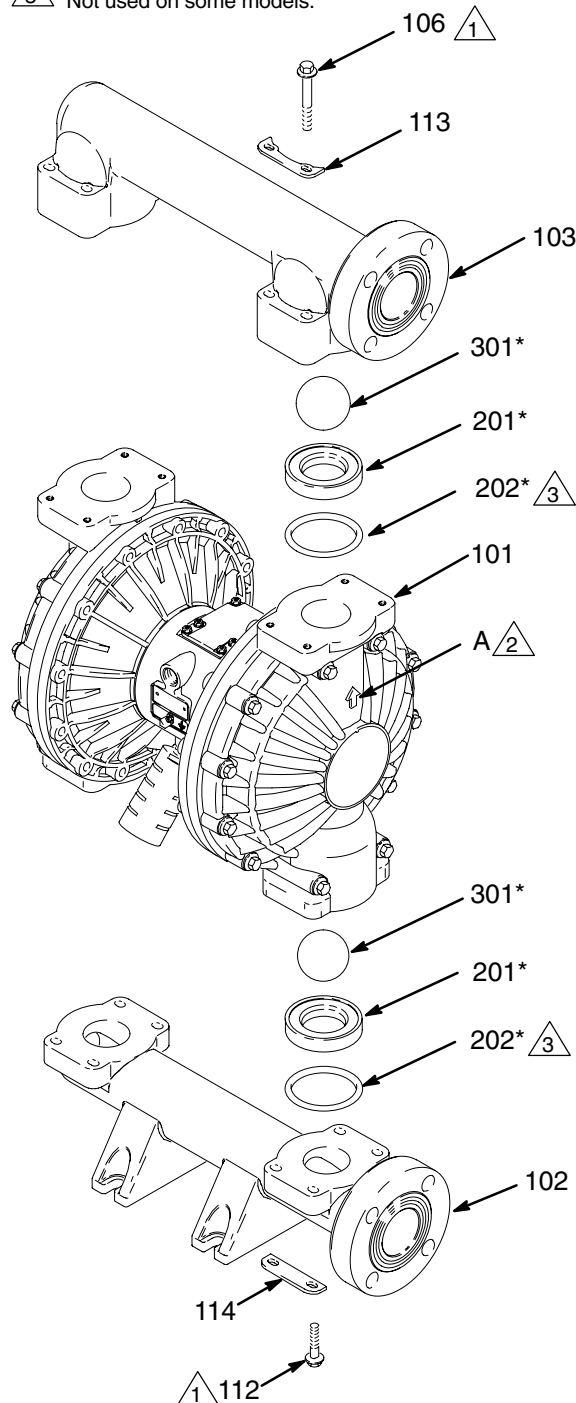

Fig. 11
3. Using a 10 mm socket wrench, remove the eight bolts (106), and four washers (113), holding the outlet manifold (103) to the fluid covers (101). See Fig. 11.
4. Remove the seats (201), balls (301), and o-rings (202) from the manifold.
**NOTE:** Some models do not use o-rings (202).
5. Turn the pump over and remove the bolts (112), washers (114), and inlet manifold (102). Remove the seats (201), balls (301), and o-rings (202) from the fluid covers (101).
2. Reassemble in the reverse order, following all notes in Fig. 11. Be sure the ball checks are assembled **exactly** as shown. The arrows (A) on the fluid covers (101) **must** point toward the outlet manifold (103).
- 2 Arrow (A) must point toward outlet manifold (103).